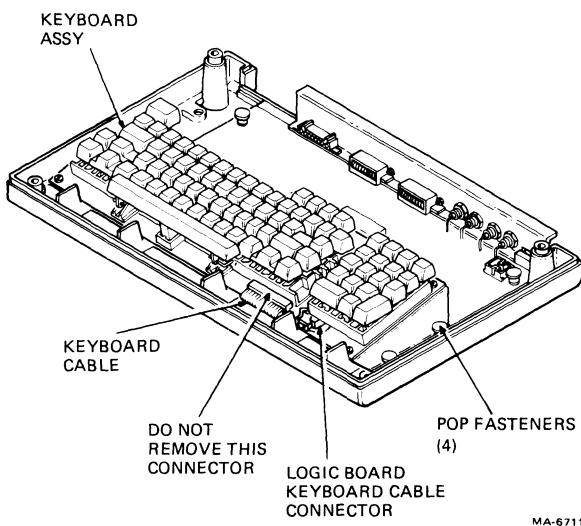

Figure 6-4 Keyboard Assembly Removal
2. Release the four (4) pop fasteners securing the keyboard assembly to the terminal (Figure 6-4). To release the pop fasteners pull up on the plungers.